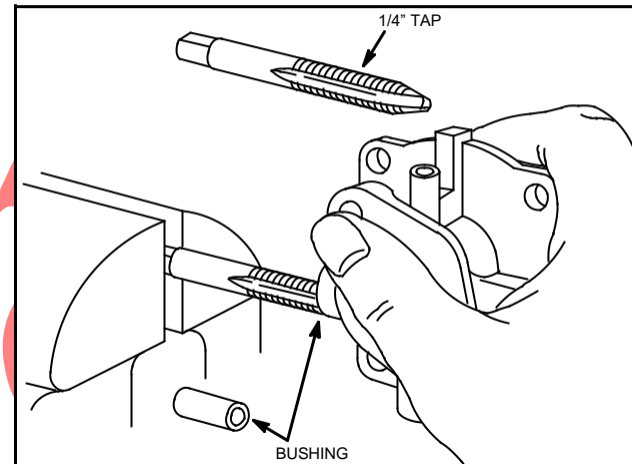

Fig. 276 - REPLACING THROTTLE SHAFT BUSHINGS
2. Turn carburetor body so as to thread tap or E-Z out into bushings enough to pull bushings out of body, Fig. 276.